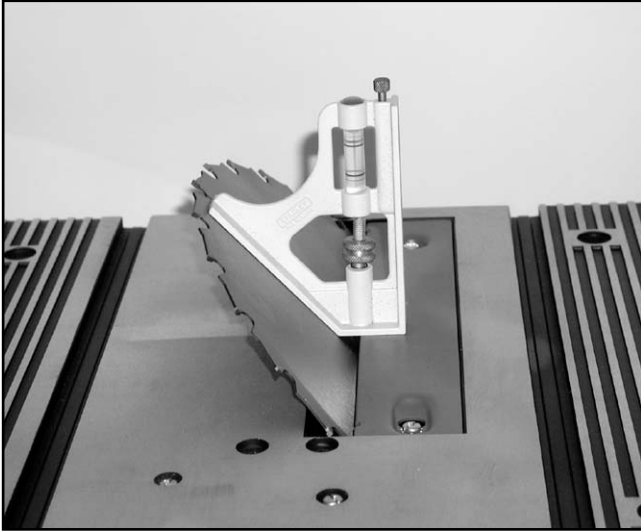

Figure 19. 45° check.
- Place the 45° angle of your square against the blade. If the blade and square are not contacting evenly, Loosen the pointer as shown in **Figure 19**.